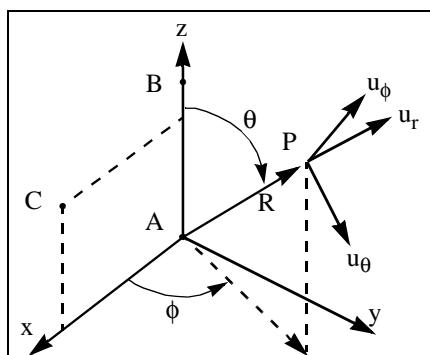

Figure 4-16 CORD2S coordinate system
6. The displacement components at P,  $(u_r, u_\theta, u_\phi)$ , are dependent on the location of P as shown in Figure 4-16.